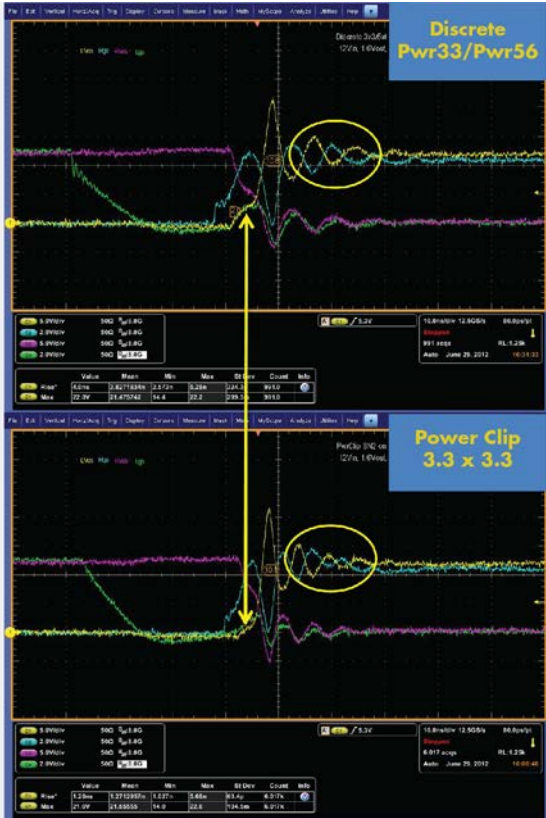

Figure 1
- Lower layout inductance seen in Vsw higher ring freq (fig 1) and in reduced HS peak V_{DS} ring (fig 2).
- Lower LS S inductance seen in smaller initial Vsw rise (fig 1) and in reduced Vsw undershoot at HS turn on (fig 2).